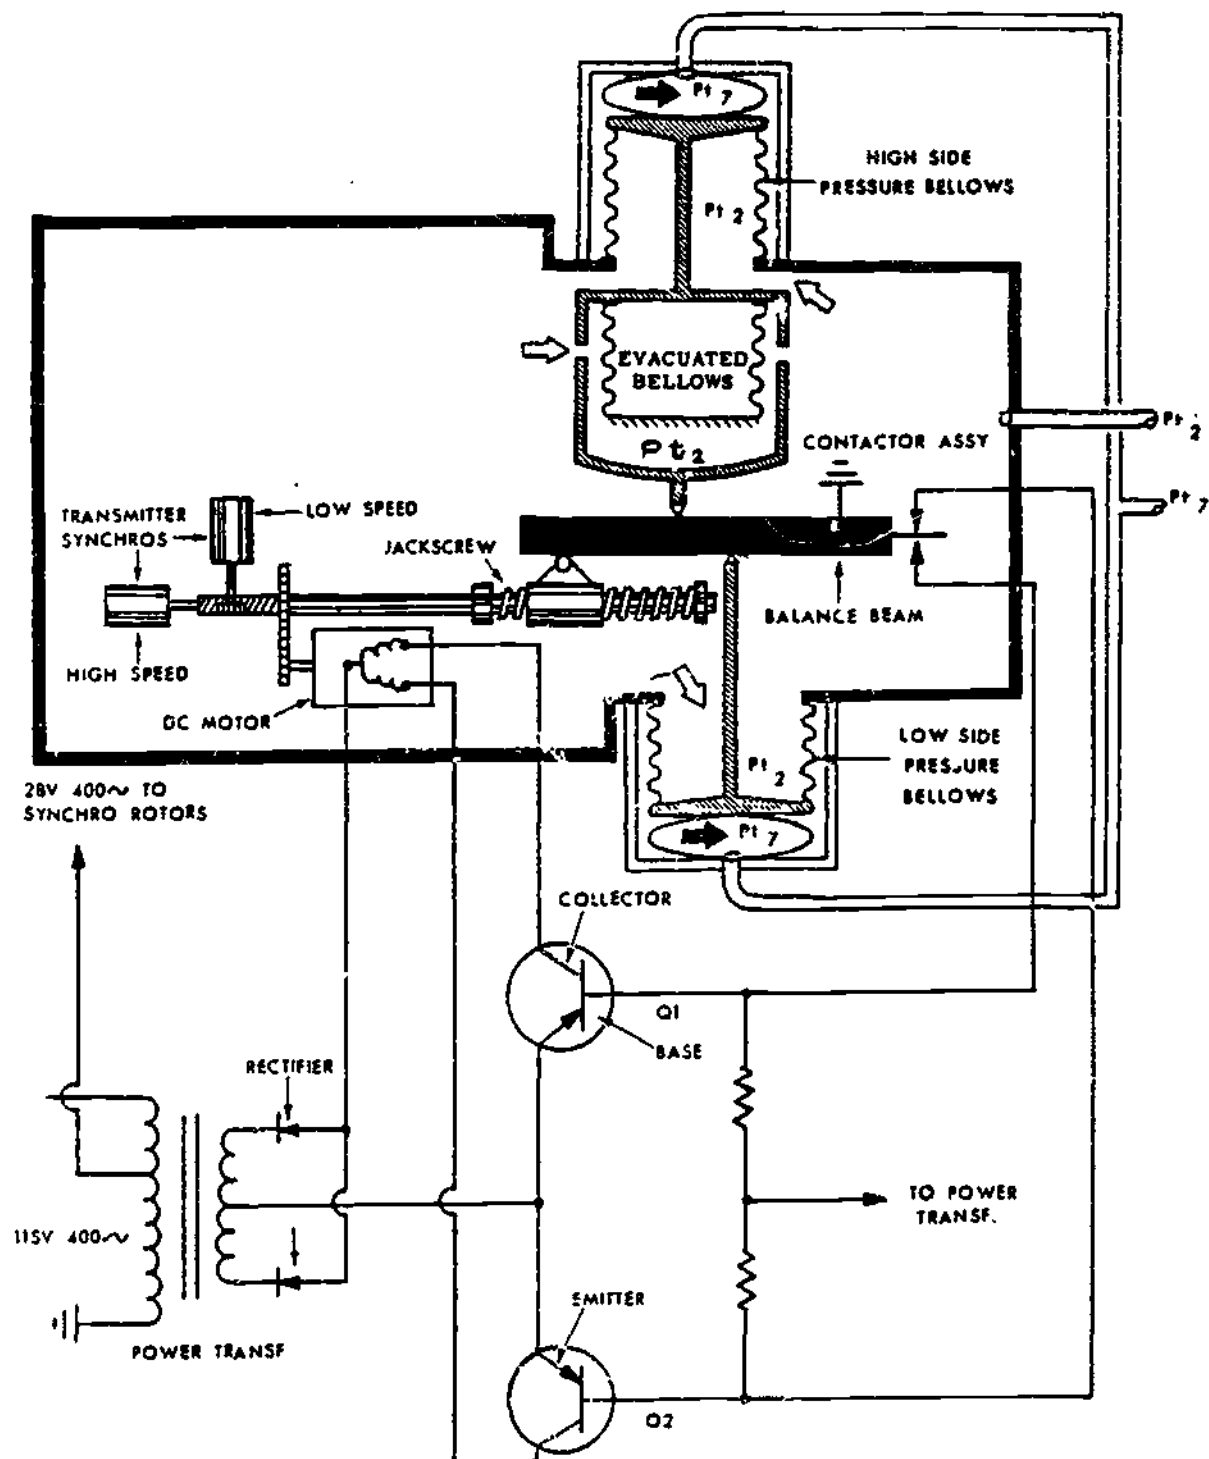

Figure 12.
11. The schematic shown in figure 12 is a transducer manufactured by _____ company.
A schematic of the AiResearch transducer is shown in figure 12. Notice the DC motor and the mechanical arrangement used to turn the jackscrew and thus move the fulcrum. Note also the contactor assembly of one end of the beam. The beam is electrically grounded and, when tilted, grounds one contact or the other.
The two transistors control motor current. Both transistors have reverse bias. In this reverse bias condition (as shown in figure 12) they act as open switches, so that the motor will not operate.